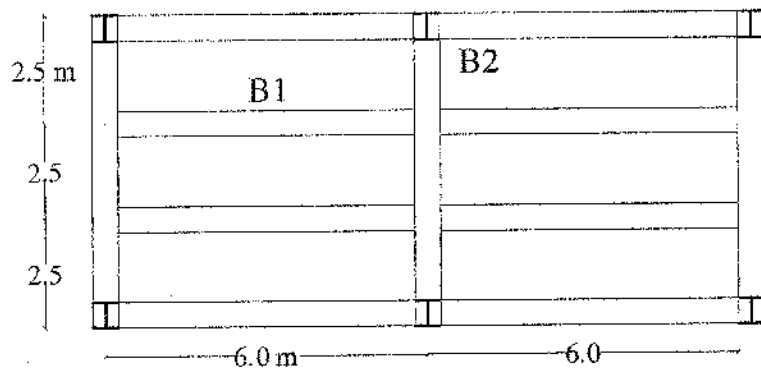

Fig. 2
- B. The floor system shown in Fig. 2 consists of a reinforced concrete slab rested on steel I-beams. Slab thickness = 0.1 m, L.L. = 400 kg/m², F.C. = 140 kg/m², and steel of grade 37. It is required to: